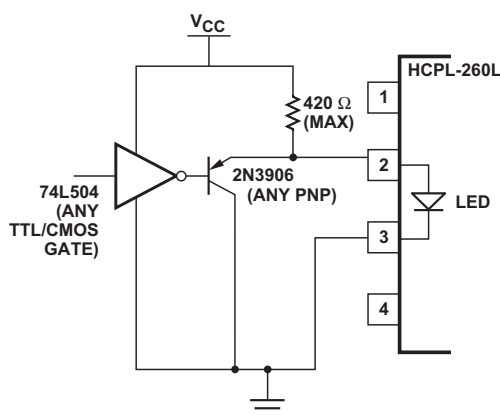

Figure 15. TTL interface circuit.
1. Use of drive circuits where current is shunted from the LED in the LED “off” state (as shown in Figures 15 and 16). This is beneficial for good CMR_H .
Figure 15 shows a circuit which can be used with any totem-pole-output TTL/LSTTL/HCMOS logic gate. The buffer PNP transistor allows the circuit to be used with logic devices which have low current-sinking capability. It also helps maintain the driving-gate power-supply current at a constant level to minimize ground shifting for other devices connected to the input-supply ground.